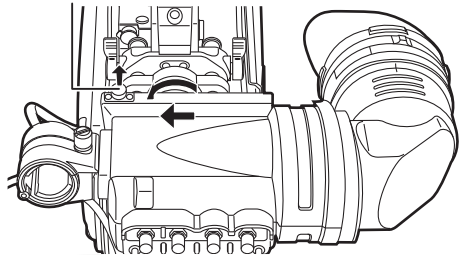

Fig. 2
- 4 While pulling up the viewfinder stopper, slide the viewfinder toward the direction of the arrow to attach. (Fig. 2)